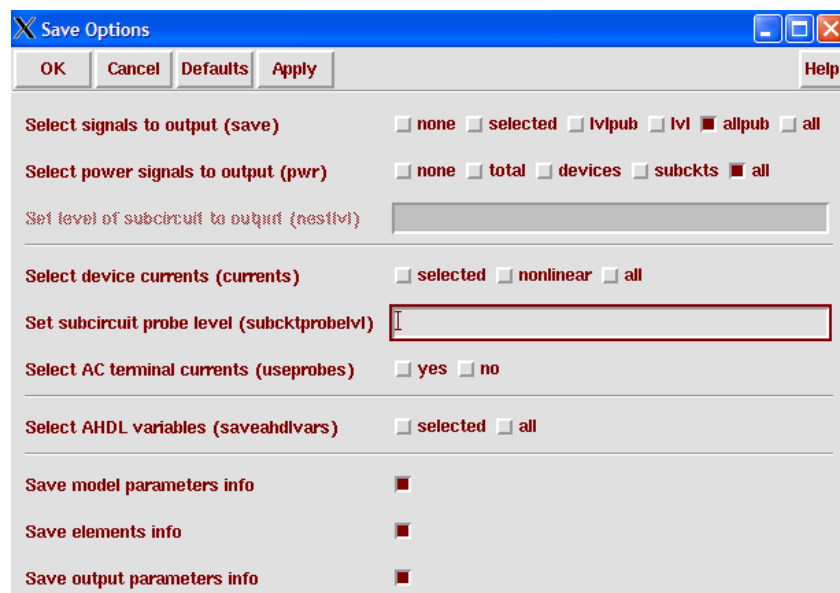

Figure 1: Save Options Window, configured to save all pwr waveforms
2. In the ADE, Select **Outputs** → **Save All**. A Save Options window will appear. See **Figure 1**.